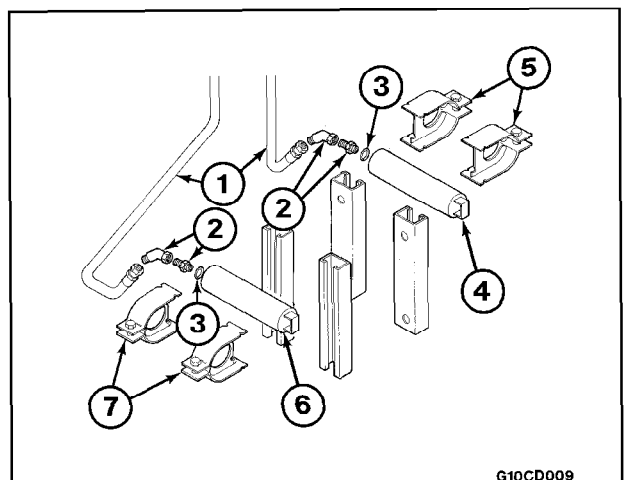

Figure 10
5. Tag and disconnect hoses (1, Figure 10) from fittings (2). Plug and cap hoses and fittings to prevent contamination from entering hydraulic system and accumulators (4 and 6).
6. Loosen clamps (5 and 7, Figure 10) and slide accumulators (4 and 6) out.
7. Remove fittings (2, Figure 10) and O-rings (3) from end of accumulators (4 and 6), if replacement is necessary.